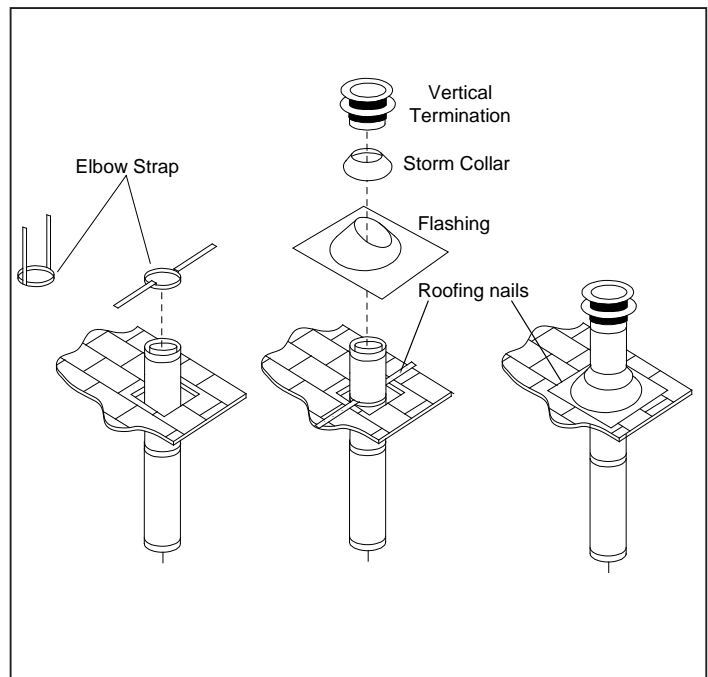

Figure 66: Vertical Vent Termination
- Step 4.** Measure roof pitch. Select the proper flashing and storm collar and determine the height above the roof (see Figure 66). A non-corrosive pipe material must be used for all exterior pipe lengths. Seal nail heads with silicone.